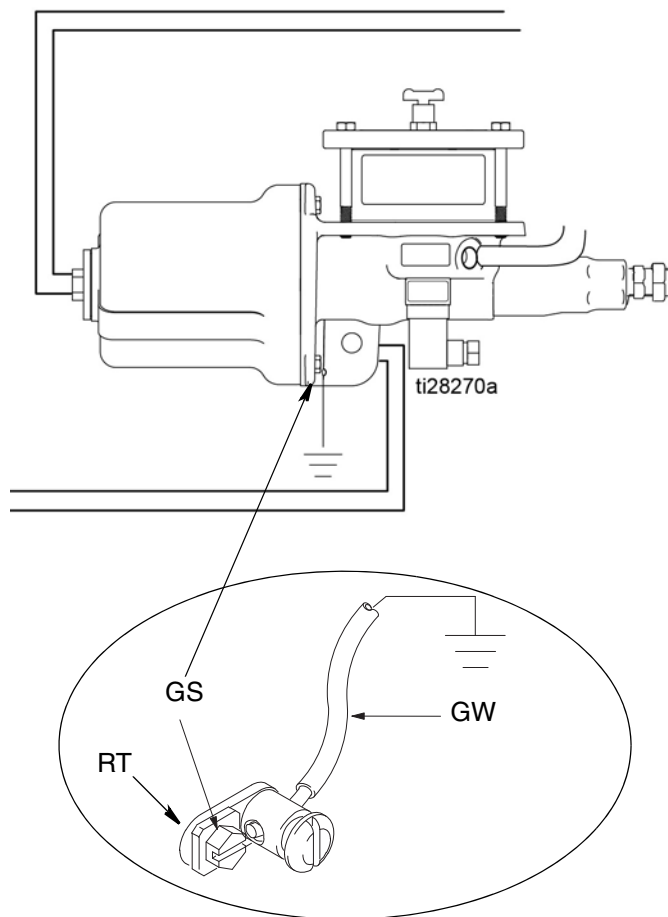

FIG. 2
To ground the pump: Remove the ground screw (GS) located on the back of the pump base and insert it through the eye of the ring terminal (RT) at end of ground wire (GW). Fasten the ground screw (GS) back onto the pump and tighten securely. Connect the other end of the ground wire to a true earth ground. See FIG. 2.